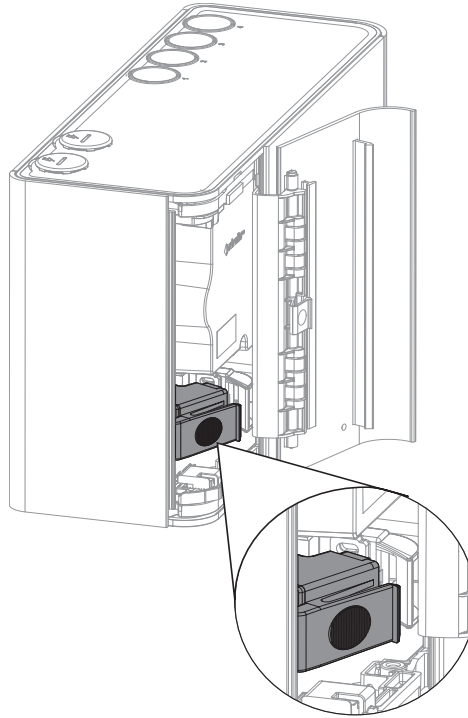

Figure 7-3: Tilt Filter towards the left-hand side of the detector
3. Tilt the filter towards the left-hand side of the detector (Figure 7-3). The filter has hinge pins at its base which allow it to be tilted on the chamber manifold.